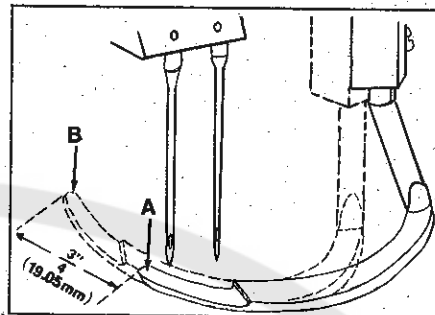
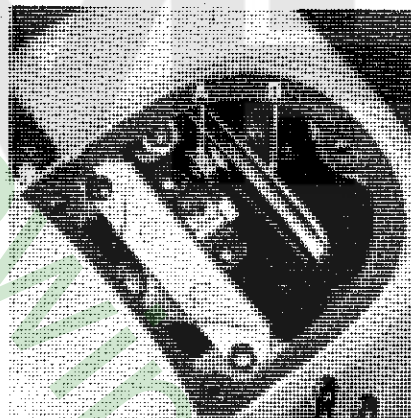

FIGURE 16
FIGURE 17
The travel of the spreader from point (A, Fig. 16) to point (B) should be 3/4 inch (19.05 mm). Adjustment is made by loosening nut (A, Fig. 17) and moving the ball joint in the rocker shaft lever (B) as required. The further away from the rocker shaft the ball joint is located, the shorter the travel of the spreader. Retighten nut (A) after adjustment. Check clearance between connecting rod ball joint and machine casting.